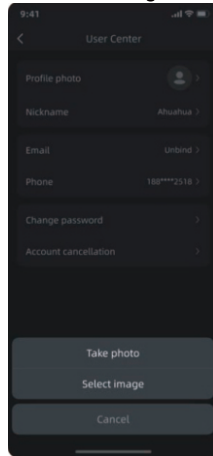

Figure 2
2) Figure 2: Select the replacement method, adjust the cropping area and save, and the avatar will be updated immediately.